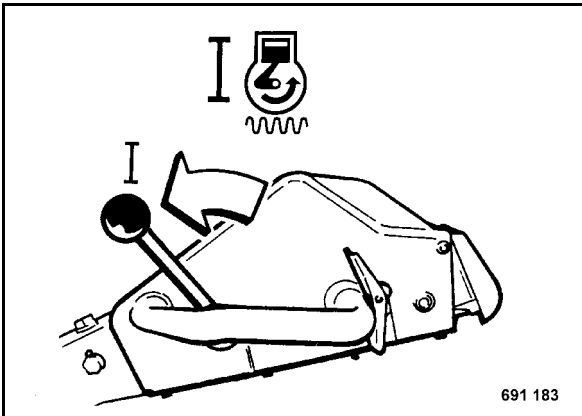

Fig. 23
- Set the throttle lever (Fig. 23) to vibration step 1.